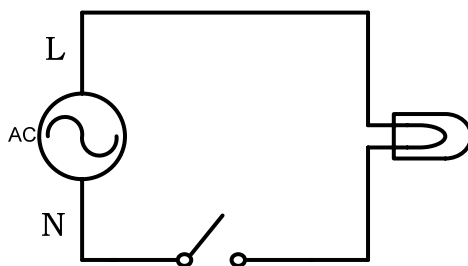

Figure 1.2: Circuit diagram for assignment 5
5. What is the drawback of the switch connection of the circuit in Figure 1.2?